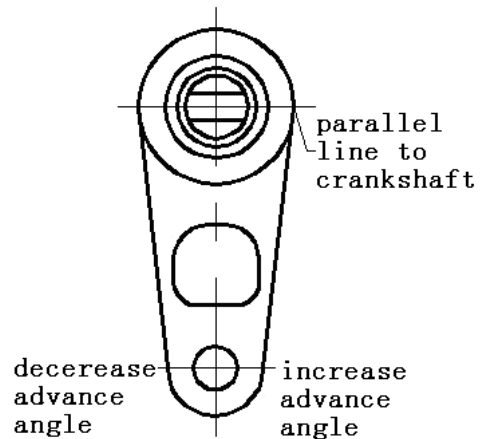

Fig. 4-6 Adjustment of ignition advance angle
- If ignition timing is not within $6 \pm 2^{\circ}\text{C}$ loosen the locknuts for distributor housing and adjust it by swinging the housing .swinging anticlockwise increases ignition advance angle, while swinging clockwise reduces it(fig.4-6)